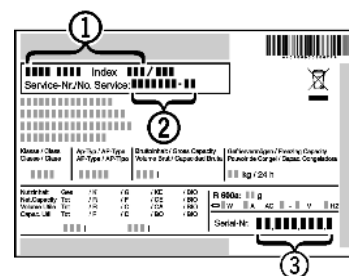

Fig. 20
- Read off the appliance name Fig. 20 (1), service no. Fig. 20 (2) and serial no. Fig. 20 (3) from the model plate. The model plate can be found on the inside of the appliance on the left.